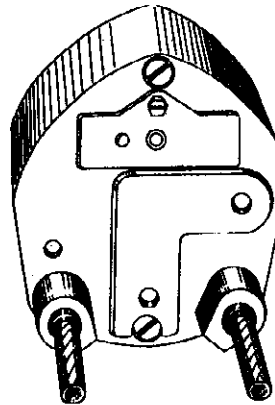
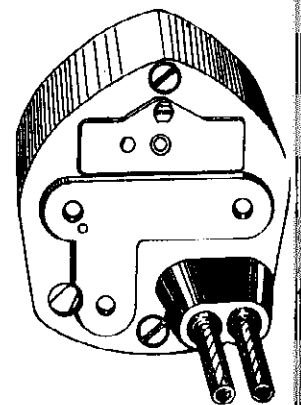

FIG. 3
FIG. 4
There are two basic type controls. The type used the most has direct drive and is shown in Fig. 3. The control knobs fasten on to the control ends of the flexible shafts. The control shown in Fig. 4 uses a gear type drive for the volume control shaft. In this type control, the knobs fasten on to short shafts or stubs in the control head and the shafts are coupled to these stubs. The volume control is connected through a gear train, while the tuning control shaft is coupled direct.
The early controls of this type had smaller openings in the rear for coupling the shaft casings, since the casings were straight ended (without the usual swelled or bell end.) These holes were enlarged later on to take the large bell end casing, as shown in Fig. 4., but the same part number was retained for the control housing. When ordering a control housing of the gear type and the one with the small casing holes is required, be sure to note this on the order.
DIRECT DRIVE CONTROLS—(See Fig. 3)
**GEAR DRIVE CONTROLS—(See Fig. 4)